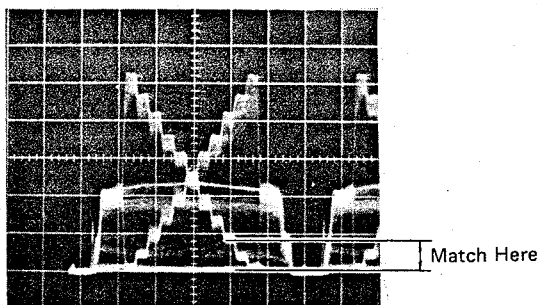

Fig. 6-4-27
- Next, adjust RED PEDESTAL VR305 so that the gray scale's 0~2nd step of R signal matches that of YL signal. (Fig. 6-4-27)